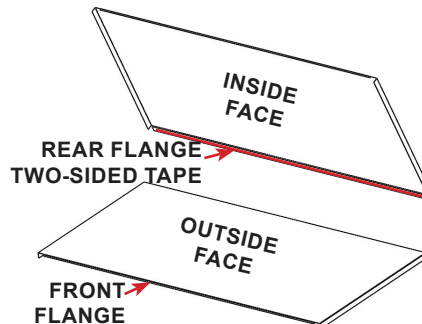

FIGURE 2.62 - Top Panel Tape
**STEP 15:** Remove two-sided tape paper strip to expose the adhesive side of the tape. See FIGURE 2.62